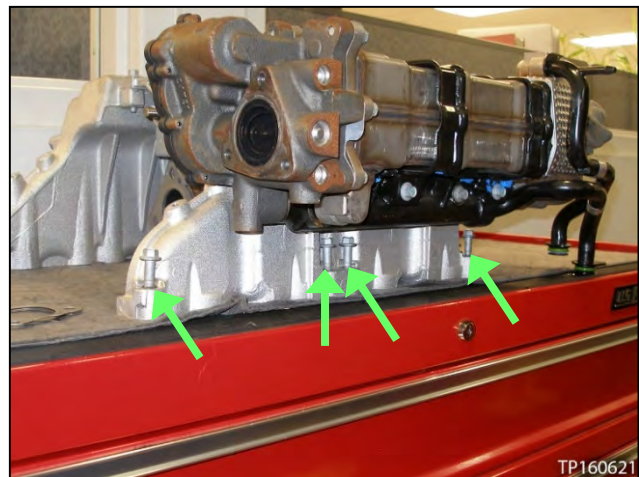

Figure 81
23. Install all eight (8) intake manifold bolts in place (see Figure 81).
- Figure 81 does not show the four bolts on the other side of the intake manifold.